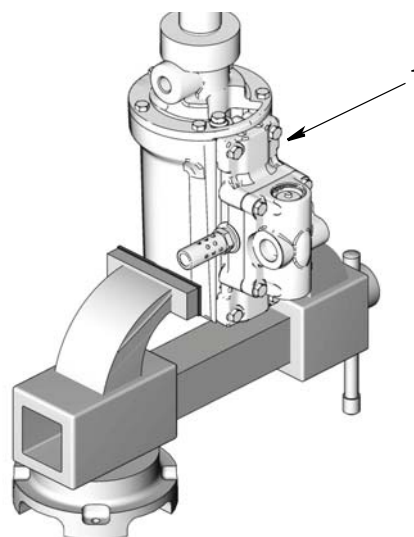

Fig. 1
3. Clamp the pump (1) upside down in a vise as shown in Fig. 1.